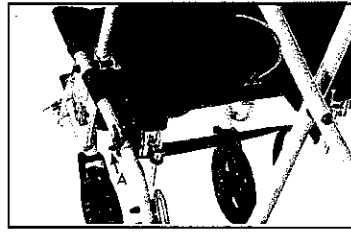

figure 4
2. To change seat depth, undo the Velcro® that attaches the back panel to the seat panel. (Fig. 4)